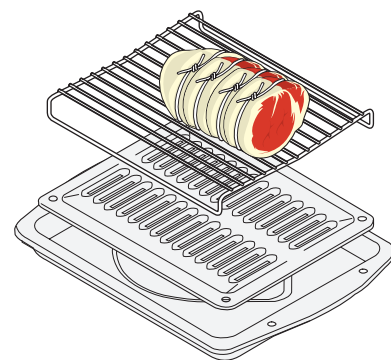

Fig. 4
3. Position food (fat side up) on the roasting rack (See Fig. 4).
Convection Convert **MUST** be used with a **Convection Bake** keypad. When used with a Timed Bake or a Delayed Timed Bake setting, the Convection Convert feature will display a "CF" for check food when the bake time is 75% complete (See Fig. 4). At this time the oven control will sound 3 long beeps at regular intervals until baking has finished. When the bake time has completely finished the control will display "End" and will sound 3 long beeps every 30 seconds until the  pad is pressed (See Fig. 5).